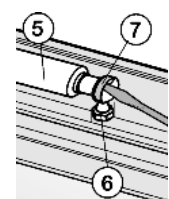

Fig. 31
- ▶ Lift the soft stop mechanism Fig. 31 (5) off the ball journal Fig. 31 (6). Carefully lift the spring using a screwdriver in order to detach the spring clip Fig. 31 (7).
- ▶ Re-attach soft stop mechanism *Fig. 31 (5)* in reverse order.